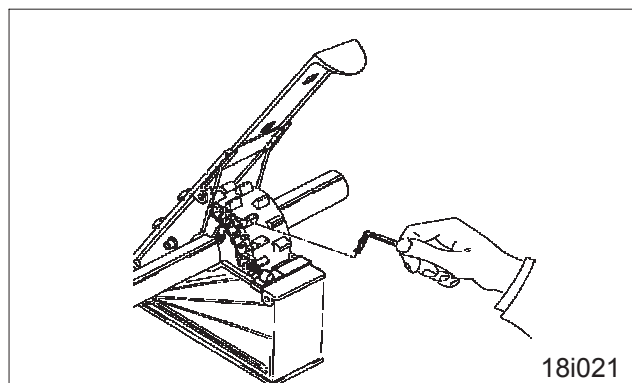

Fig. 18.28
- Fit old tramline seeding wheels (Fig. 18.28) onto the seeding shaft. The threaded pin must be pushed into the fine seeding metering wheel until the seeding wheel is taken up by the shaft with slight play. If the threaded pins are too tight, the seeding wheel will twist.